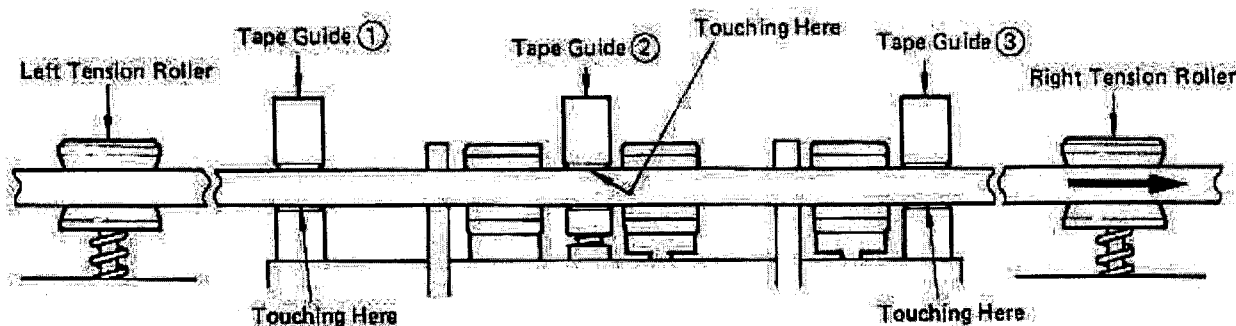

Fig. 9-7-4. Correct Tape Travel
1. Load a tape and run it in repro mode. Check that the upper edge of the tape is just touching the upper flange of the tape guide ②, and the lower edge of the tape the lower flange of the tape guides ① and ③ (see Fig. 9-7-4).